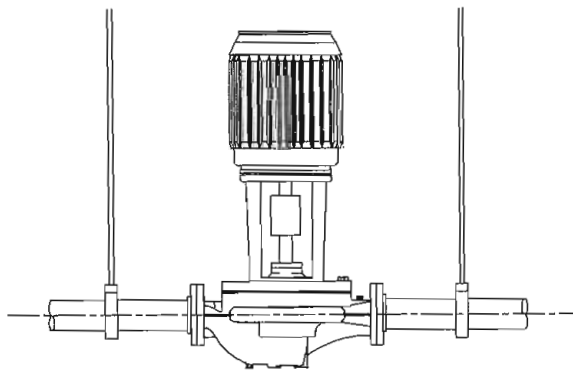

Fig. 2.2 Pipe Hanger Support
- 2.2. Supported from the ceiling by pipe hangers. (Fig. 2.2) This could be at sufficient height to use zero floor space.